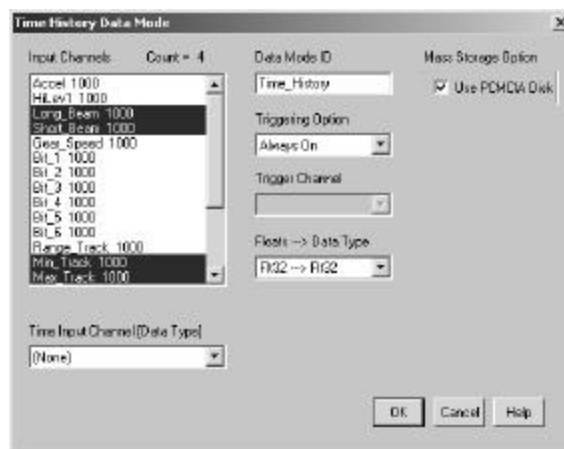

Figure 9-3: Time History Definition Dialog Box
1. Select Time History at the Select DataMode Type dialog box. The Time History DataMode definition dialog box appears. **Figure 9-3** is shown with example definition data. The channels highlighted in the Input Channels list box have been selected as the input channels for the DataMode.